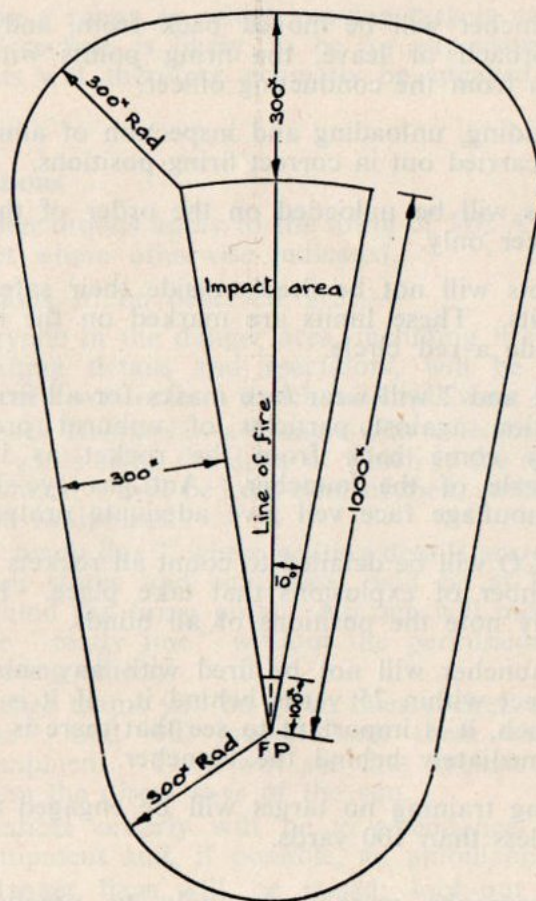
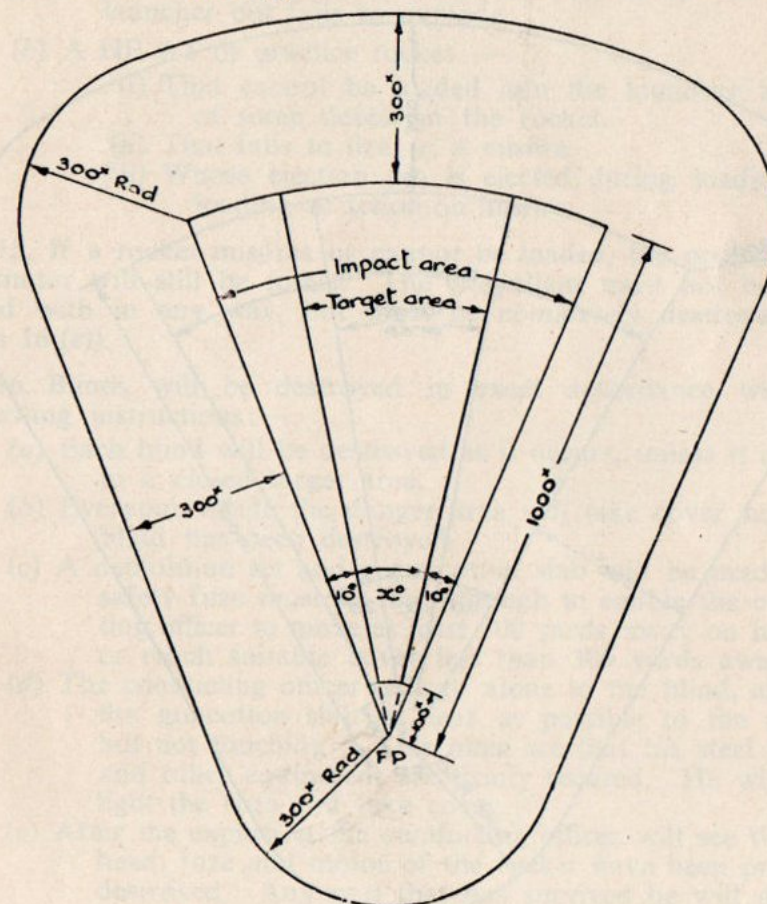
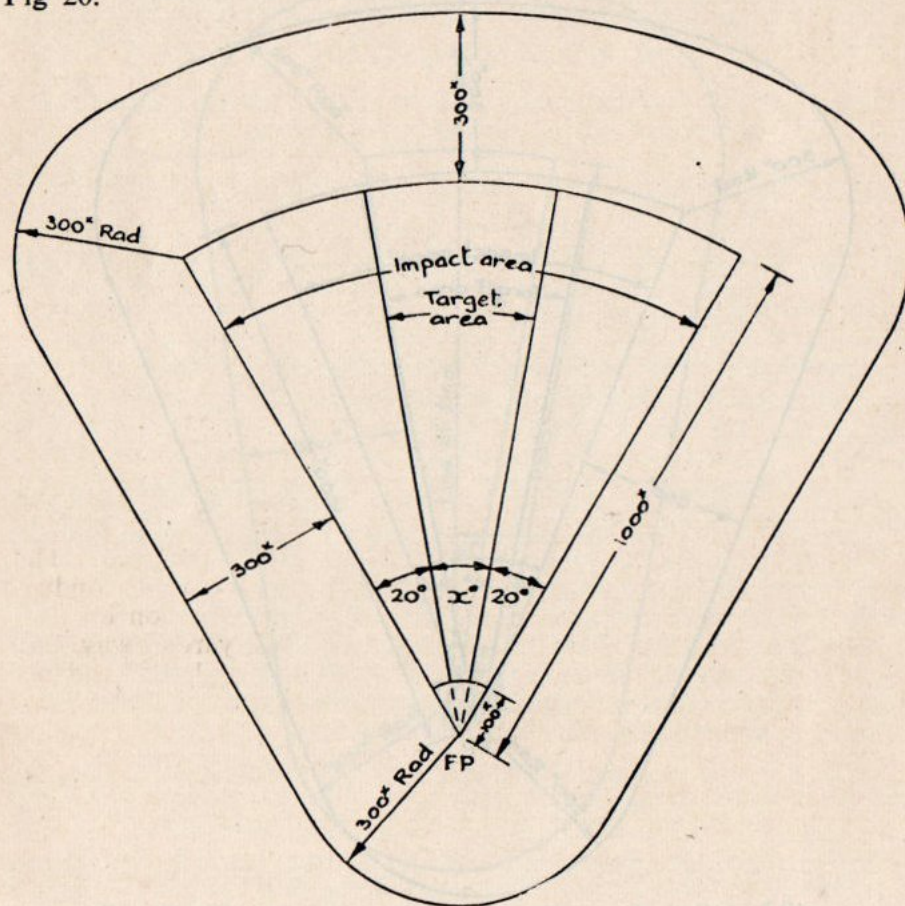

Fig 18.—Danger area—stationary targets—single line of fire
Fig 19.—Danger area—stationary targets—arc of fire
Fig 20.—Danger area—moving targets
8. A template for the danger area of a range that has a single line of fire for use with stationary targets is shown at Fig 18.
9. To determine the danger area when stationary targets are to be engaged within an arc of fire, apply the Fig 18 template with the line of fire along first one, then the other flank line of the target area. All ground which has been covered by the template in this way is the danger area. An example of the result is shown as Fig 19.
10. When moving targets are to be engaged, the procedure is the same as that described in para 9 above, except that the line of fire of the Fig 18 template must be applied ten degrees outside the flank lines of the arc of fire. An example of the result is shown as Fig 20.